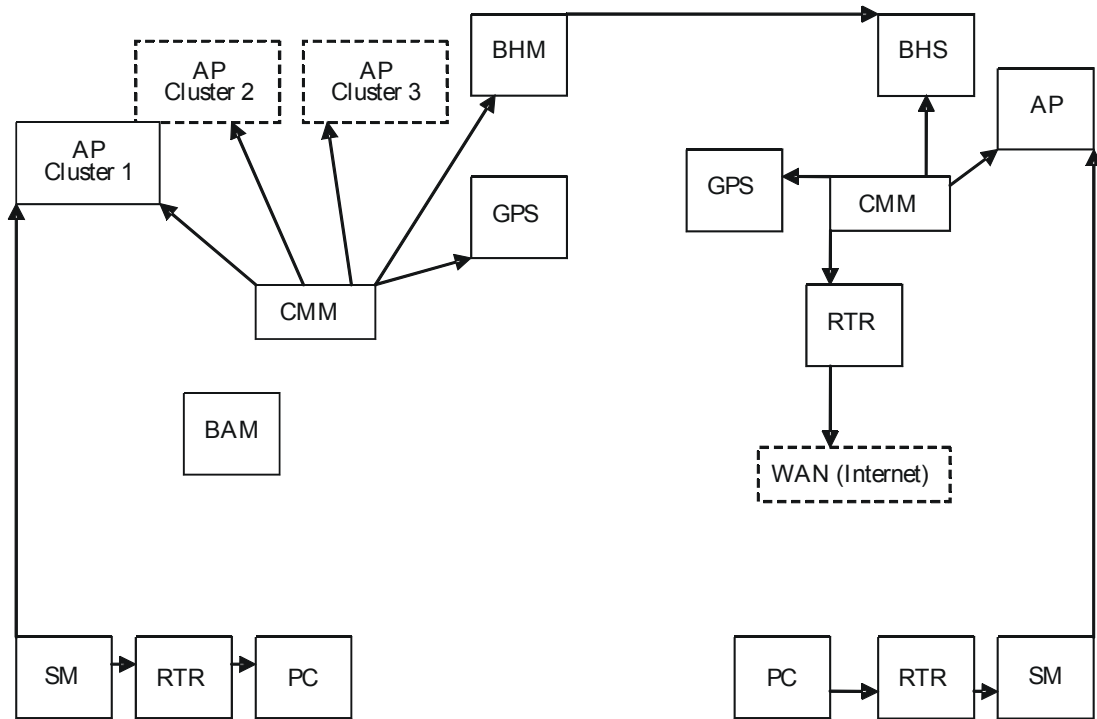

Figure 35: Typical network layout with BH
- Figure 35: Typical network layout with BH